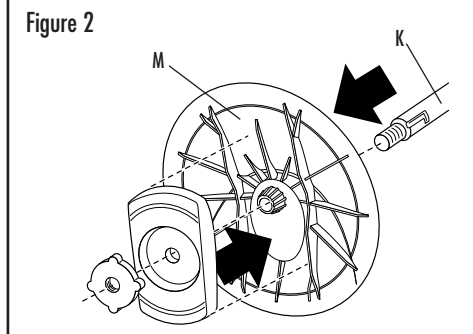

Figure 3
3. Insert the threaded end of the Upper Pole into the Lower Pole. Twist clockwise to lock. Refer to Figure 3.